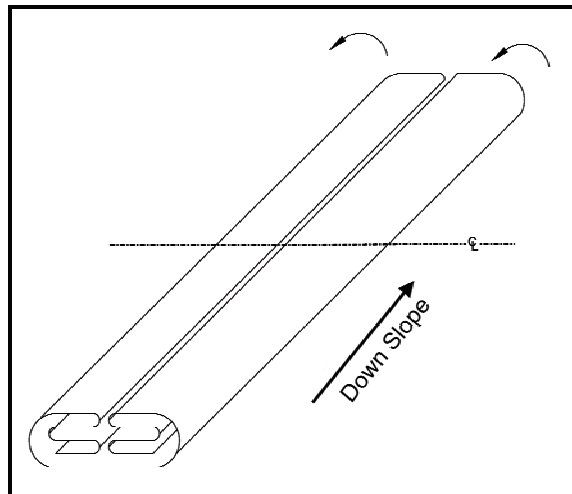

Figure 8. Rolling the tank.
7. Roll one end to center (Figure 8).